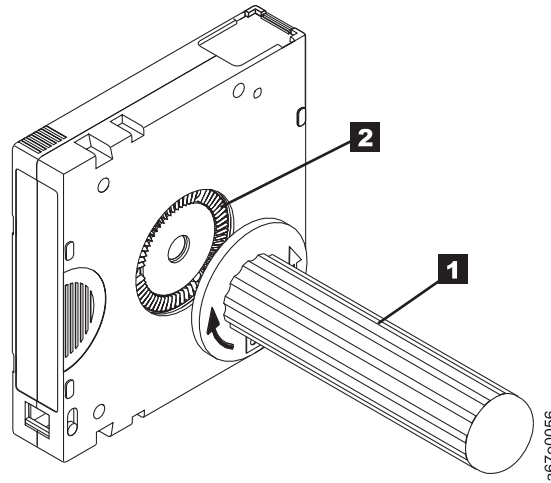

Figure 6-10. Rewinding the tape into the cartridge
5. To rewind the tape, insert the cartridge manual rewind tool (**1** in Figure 6-10) into the cartridge 's hub **2** and turn it clockwise until the tape becomes taut.